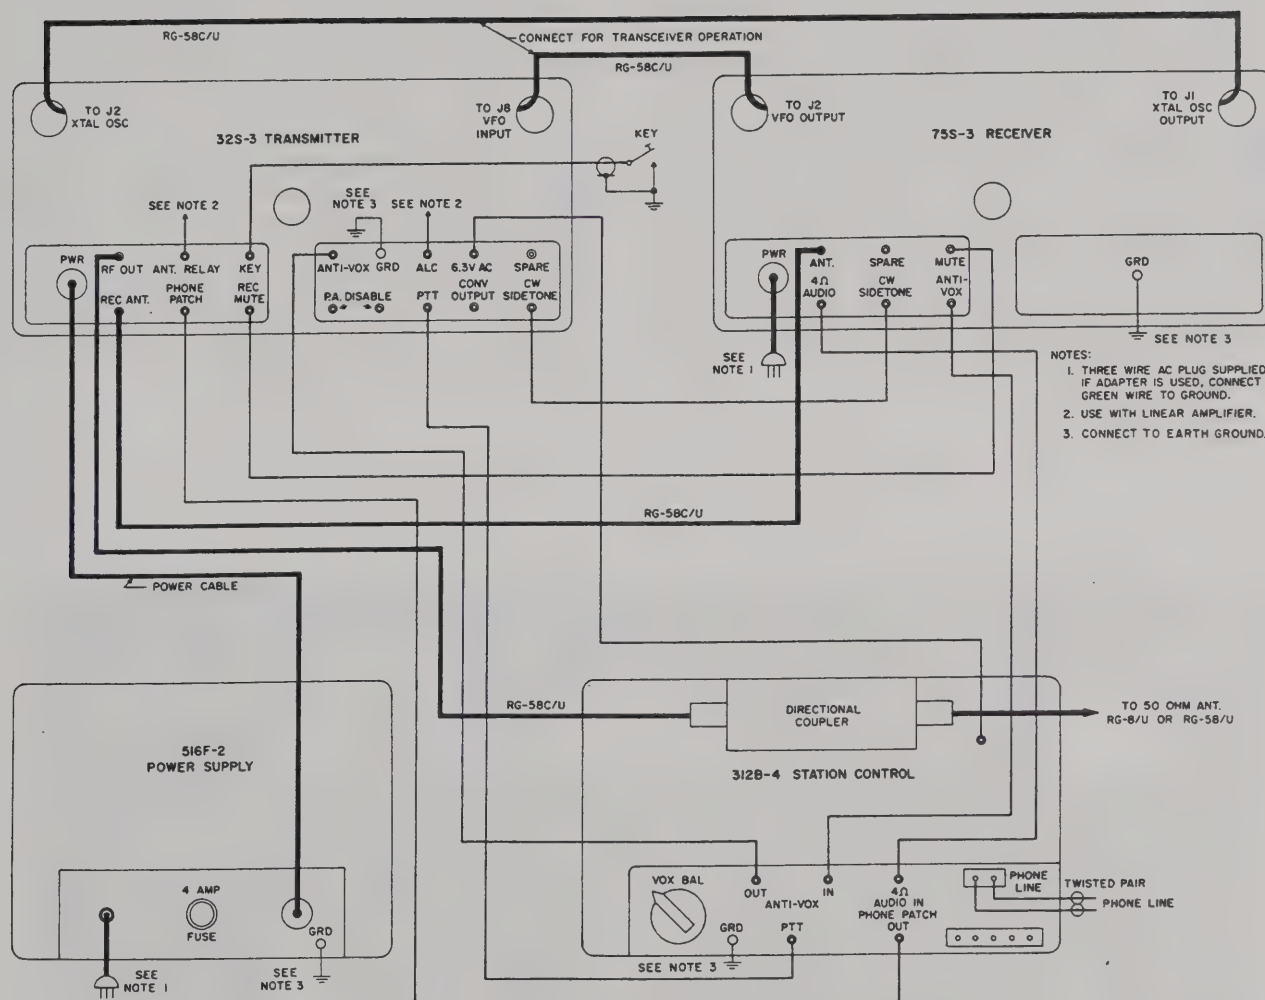

Figure 1-2. Station Interconnections
**1.2.2 CABLING WITH 32S-3 TRANSMITTER.** Figure 1-2 shows a complete station interconnection for a 75S-3 or 75S-3A Receiver, 32S-3 Transmitter, and
- a. Connect the 32S-3 and 75S-3/3A as shown in figure 1-2.